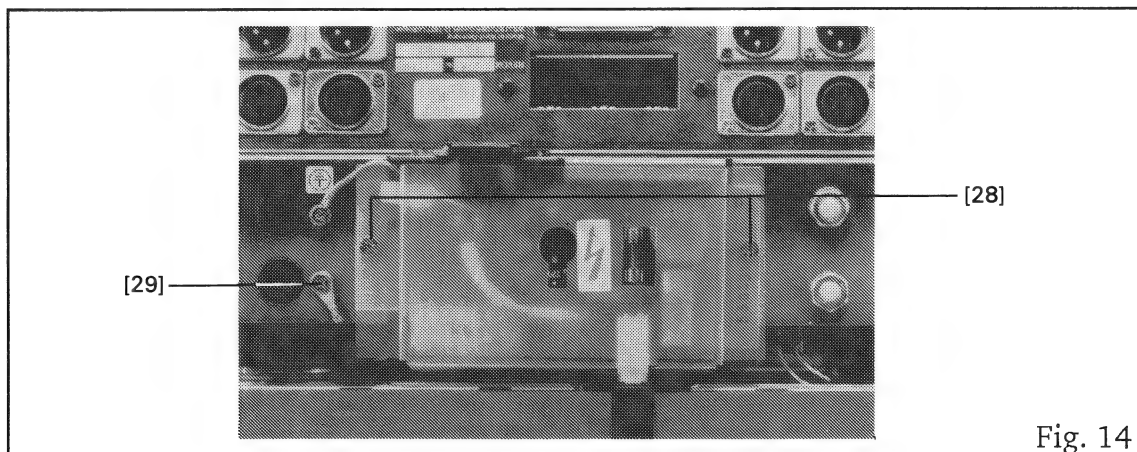

Fig. 14
- Unfasten the 2 PCB fixing screws [28] (Figure. 14).